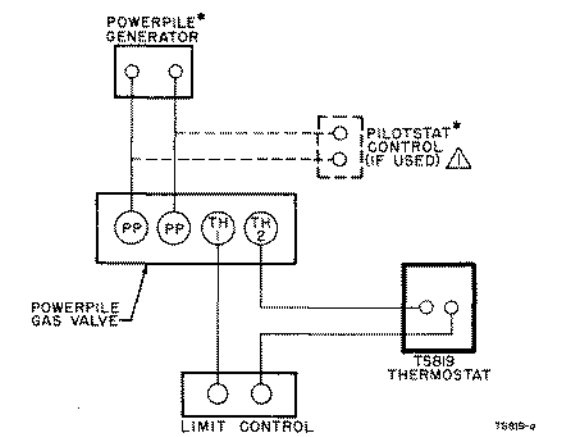

Fig. 1—Typical hookup for TS819 Thermostat. A Pilotstat control must be used in an L. P. gas system.
Locate thermostat five feet above the floor on an inside wall where there is good natural air circulation. Run two wires from the heating system to the thermostat location (Fig. 1). Wiring must agree with local codes.
1. Attach thermostat cable to terminals behind thermostat base (See Fig. 1 and 3). Push wires into wall and plug hole to prevent drafts from affecting thermostat.
6. Connect wires to backplate terminals (See Figs. 1 and 2).